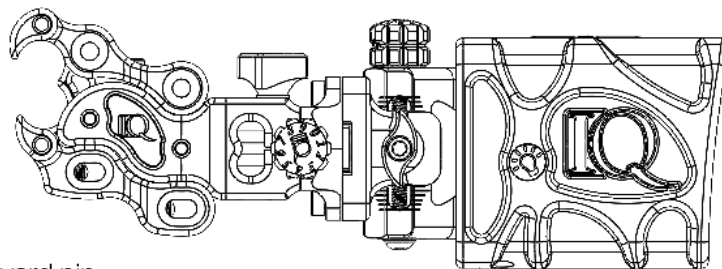

figure 1
2. Mount the sight to the bow with the supplied hardware. (figure 1)
7. Depending on where your RED laser is impacting left and right of the target, use the set screws (figure 1) to align the RED laser with the lower dot on the zeroing target.